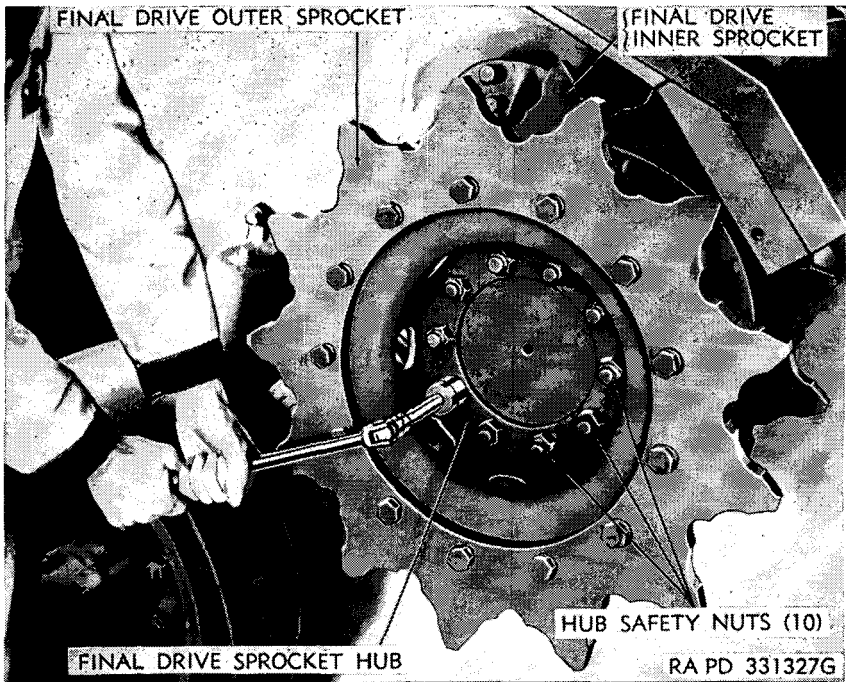

Figure 127. Removing track sprocket.
- (1) *Break track.* Break track below and to the rear of final drive and lift track over and to the rear of hub and sprockets (par. 172).
- (2) *Remove hub and sprocket assembly* (fig. 127). Remove 10 nuts attaching hub to shaft and remove hub and sprocket as an assembly.
- (4) *Break track.* Refer to paragraph 172.
- (5) *Remove hub and sprocket assembly.* Remove 10 nuts attaching hub to shaft and lift hub and sprockets off as an assembly (fig. 127).